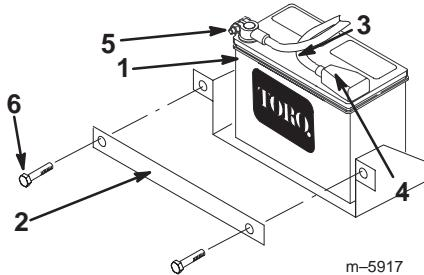

Figure 7
1. Remove the bolts, nuts, and clamp securing the battery (Fig. 7).